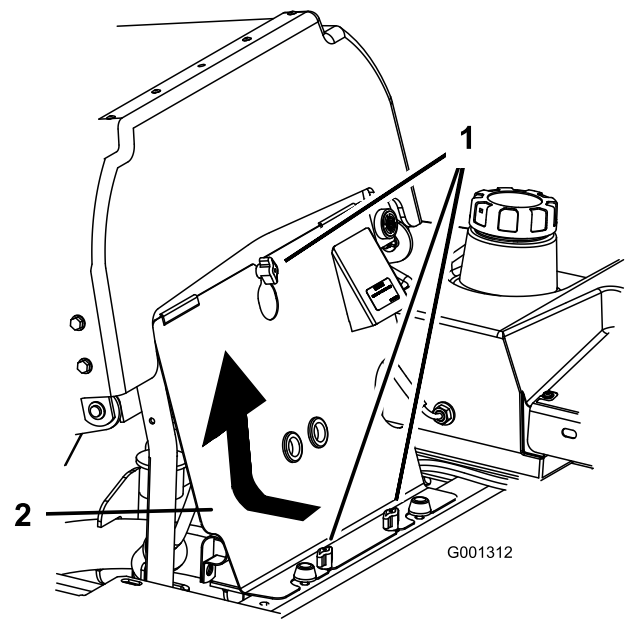

Figure 44
1. Tilt the seat forward and remove the front engine panel (Figure 44).